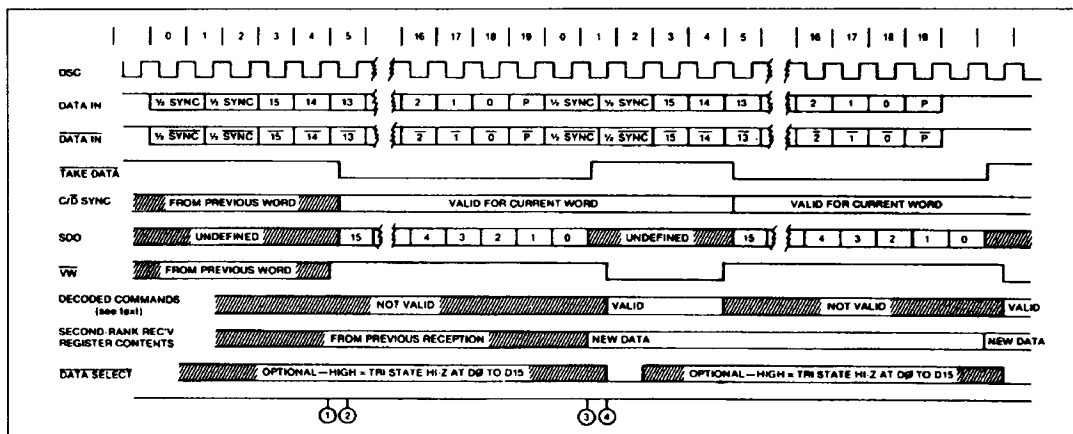

Figure 5: Receive Cycle Timing
DECODER SHIFT CLOCK (DSC) (see Figure 5) operates at the data rate (1MHz). When the DECODER recognises a valid sync and two valid Manchester data bits ①, a receive cycle is initiated. The new sync is indicated at the COMMAND/DATA SYNC (C/ D SYNC) output and the TAKE DATA output goes low ②. The C/ D sync output will remain in its valid state until a new sync is detected on a subsequent word or until DECODER RESET (DEC RST) or MRST goes low. A low at DEC RST or MRST causes C/D SYNC to go low.